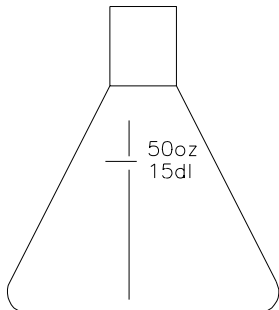

FIGURE 1
- 6) Place tank return hose into calibration flask. Figure 1.